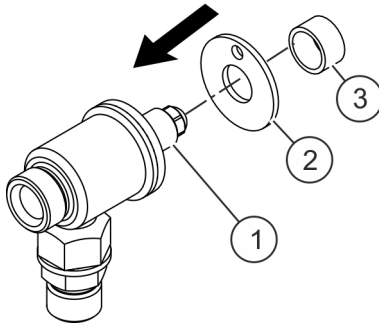

Fig. 24: Slide insulating sleeve and insulating washer over the seal screw
3. ➔ Slide insulating sleeve (Fig. 24/3) and insulating washer (Fig. 24/2) over the seal screw (Fig. 24/1).